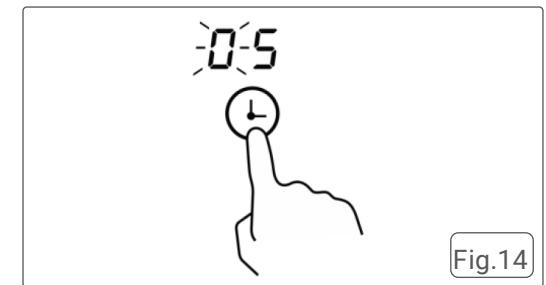

Fig.14
4. Touch the Timer control again. The second digit "0" will start flashing. Fig.14